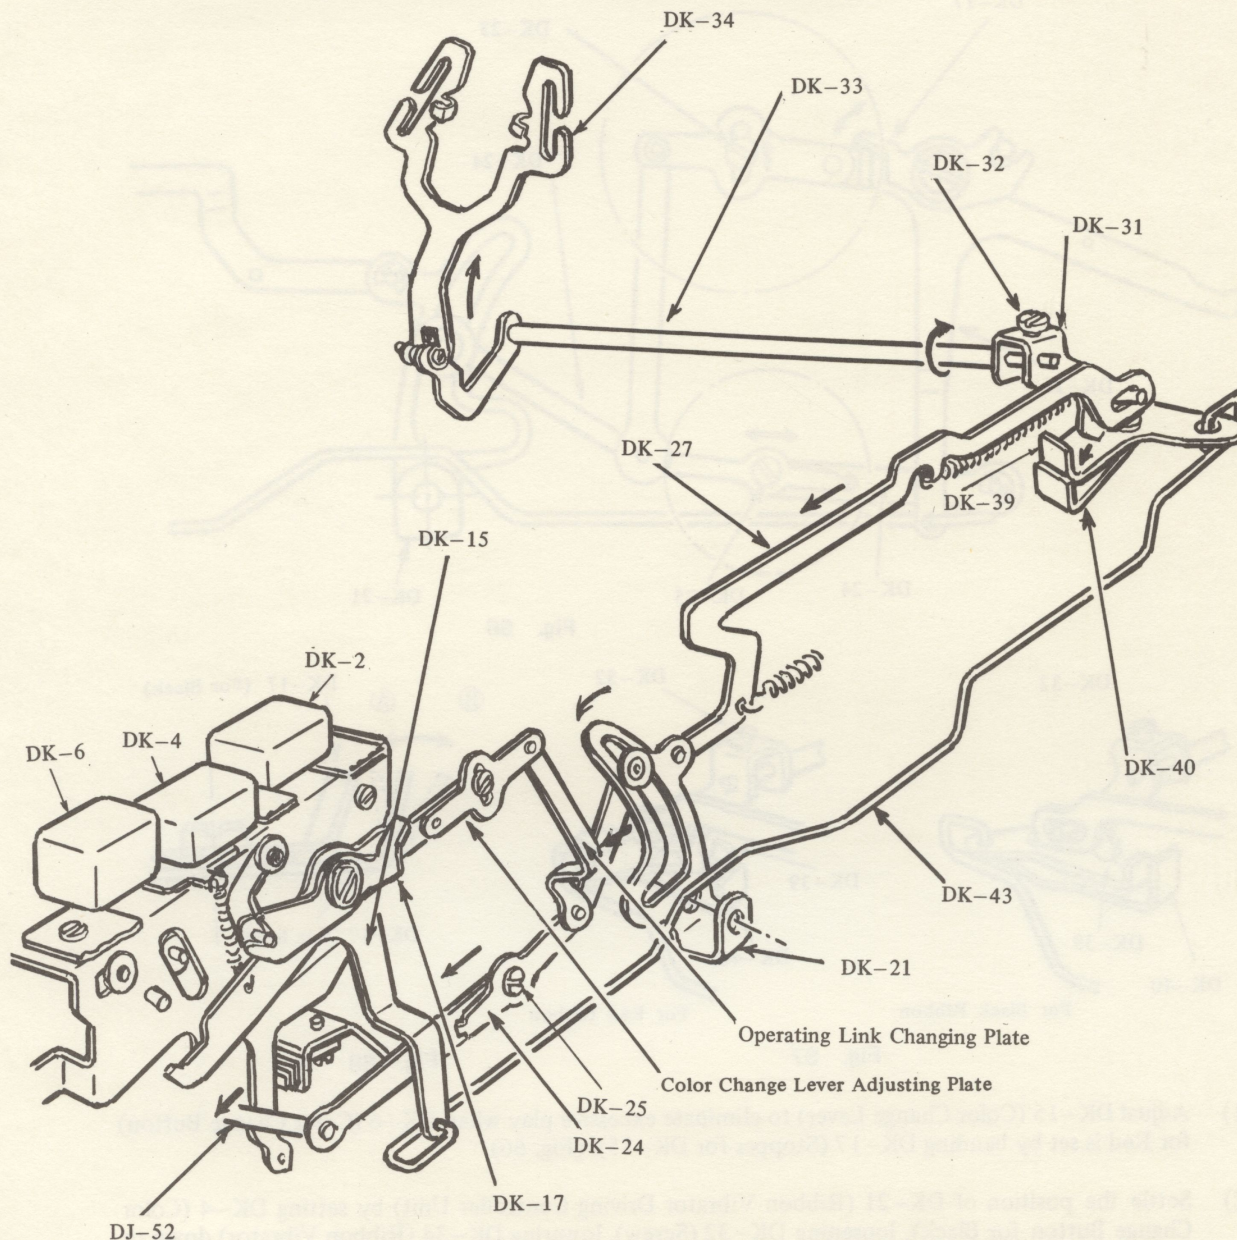

Fig. 65
- (1) DJ-52 (Ribbon Operating Rod) is pushed by movement of Dog Shelf Holder, and DK-21 (Ribbon Vibrator Driving Controller Unit) is operated by the medium of DK-24 (Link for DK-21). As the result of the above, DK-27 (Ribbon Vibrator Motivator Link) is pulled by DK-21, DK-33 (Ribbon Vibrator Link: rear) is rotated by DK-31 (Ribbon Vibrator Link: front), DK-34 (Ribbon Vibrator) is raised up, the raising up of Ribbon is stopped by contacting with DK-39 (Color Change Stopper for Black) or DK-40 (Color Change Stopper for Red). (Fig. 65)
- (2) When DK-2, -4 and -6 (Color Change Buttons) are depressed, DK-15 (Color Change Lever) is operated, DK-39 is moved by DK-43 (Color Change Wire), the position where DK-31 is stopped will be selected by DK-31 or DK-40. The position of DK-24 against DK-21 will be changed by DK-15, and the degree of raising up trip of Ribbon will be changed. (Fig. 65)